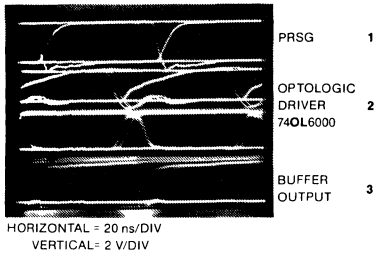
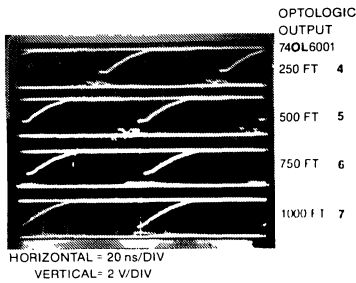
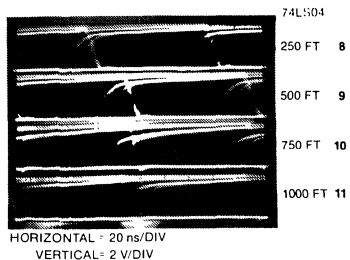

Fig. 16.
Fig. 17.
Fig. 18.
The signal quality "Eye Pattern" for the communications system shown in Figure 14 is provided in Figures 16 through 18 with a 10 MBaud NRZ Pseudo-Random Sequence (PRS). Traces 1-3 in Figure 16 describe the transmitter section. Traces 4-7 of Figure 17 show the output of the four Optologic bridged terminations. Traces 8-11 in Figure 18 illustrate the "Eye Pattern", as seen at the output of the 74LS04 logic gate. The data quality is well preserved, in that only a 30% eye closure is seen at the receiver located 1000 feet from the transmitter.
- 1 to 11 Refer to Testpoints; See Waveforms on Figs. 16, 17 and 18